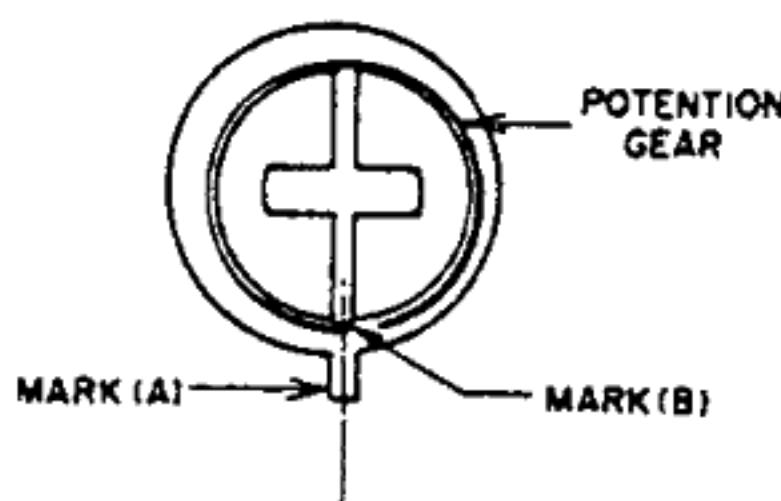

Fig. 3-15
- 1) Attach the position potential volume to the capstan holder and attach the potention gear. Attach the capstan holder to the motor block and tighten the securing screws. Align the mark on the potention gear with the groove in the motor chassis as shown in Fig. 3-15.